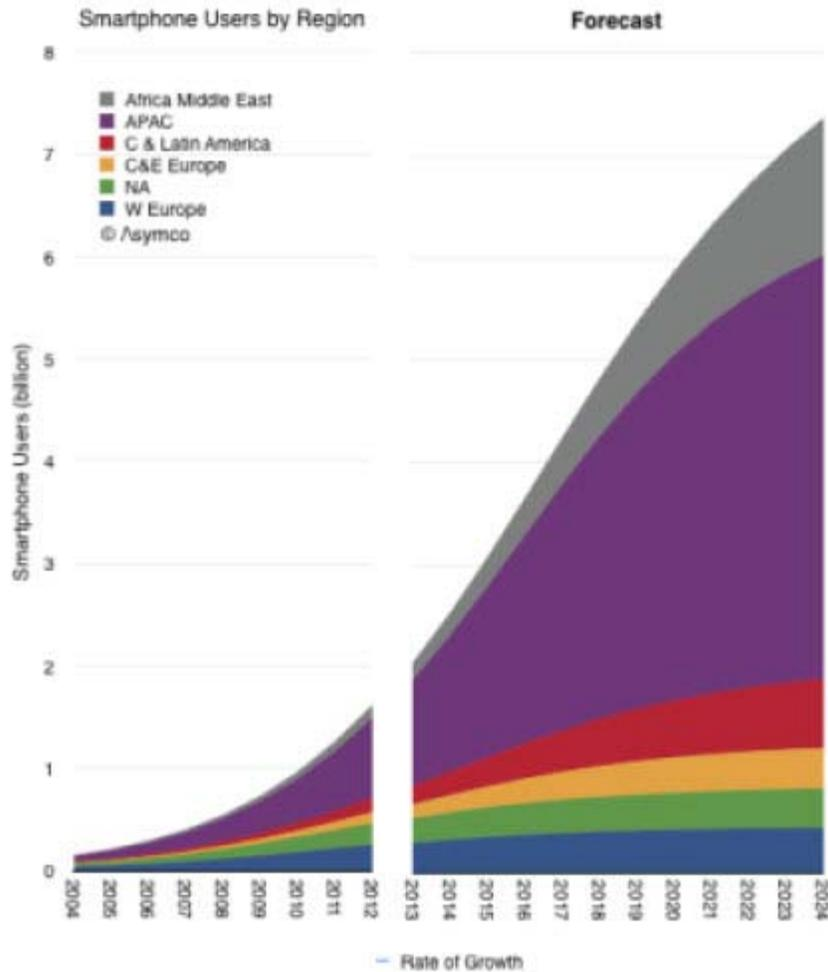

Figure 1 – Projection of Smartphone Users for 10 Years by World Region from H. Dediu ⁽⁴⁾
market research company, suggests that “smartphone users worldwide will total 1.75 billion in 2014.” eMarketer “expects 4.55 billion people worldwide to use a mobile phone in 2014.” Horace Dediu, founder of Asymco, who covers the mobile industry has made some predictions(4) regarding the future of smartphones. A particularly interesting graphic is reproduced as Figure 1. Note that the smartphone numbers seem to be approaching the world’s population in the next 10 years. This is a challenge to consider, but it does indicate that smartphones will probably be available as a possible educational tool with increasing popularity with younger persons as educators look toward the future. Special Considerations for Africa Matthew Labrooy, who works with eLearning Africa(5) , has written about Africa’s smartphone revolution(6) . He has estimated that “Smartphone growth in Africa has increased by 43% every year since 2000, and experts predict that 69% of mobiles in Africa will have Internet access by 2014. As a result, smartphone manufacturers are showing increased interest in the region in a bid to gain their share of half a billion potential customers. Currently a simple budget smartphone produced for the African market is available on the streets of Kenya for as little as €37 (US\$50) and has sold more than 300,000 units across the country. Smartphone penetration in Africa is estimated between 17-19%, though rates vary wildly from country to country. Nigeria, Africa’s most populous nation, has a smartphone penetration as high as 41%.” Spurred by the success of the African budget smartphone, Microsoft has produced a